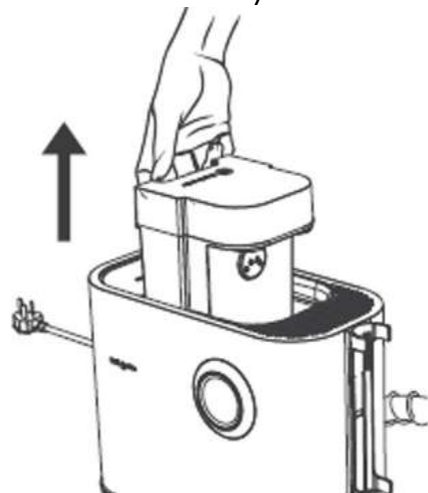

Fig. 19
2. Remove the dirty water tank from the appliance (see Fig.19).